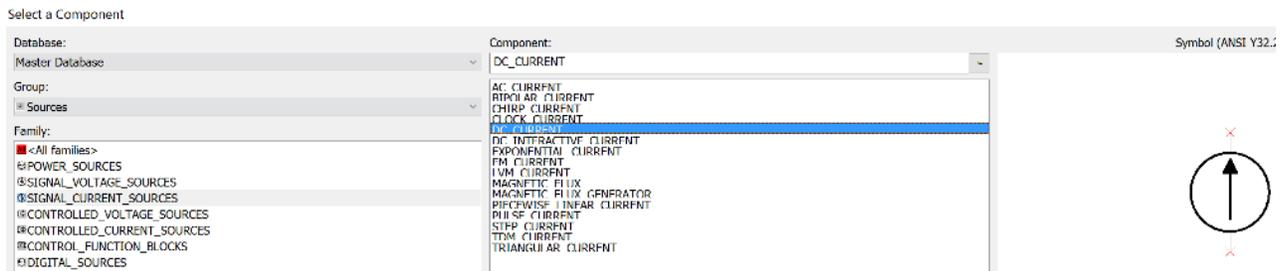

**Figure 1.7a: Preferred probe settings for DC circuits (Left) and AC circuits (Right).**
**Note:** In Figure 1.7 all of the Multisim probes only have I and V, but when the current and voltage probes are normally placed in Multisim the “Instantaneous and periodic” probe setting is the default so you will see 5 voltage measurements (as shown in Figure 1.7a). From top to bottom these voltage measurements are: 1-Instantaneous, 2-peak to peak ( $V_{pp}$ ), 3-Root-Mean-Square ( $V_{rms}$ ), 4-average ( $V_{avg}$ ), and the 5-frequency. The average voltage is labeled V(dc) in the Multisim probe because  $V_{avg}$  is equivalent to the DC value. The instantaneous voltage is the value at a specific time and will continuously change as the AC current flows through the circuit. These four **additional parameters** for voltage or current are only used for AC circuits. When dealing with DC circuits there is only one type of voltage and current so only the instantaneous measurements are needed. To get only the DC current or voltage, click on the probe settings and change the default to “Instantaneous Only” (see Figure 1.7a).